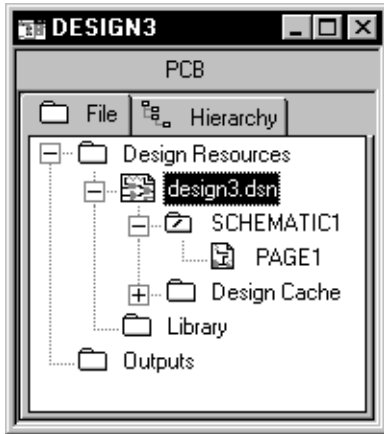

Figure 2 New project manager window
You use the project manager to collect and organize all the resources you need for your project. These resources include schematic folders, schematic pages, part libraries, parts, VHDL files, and output reports such as bills of materials and netlists. Figure 2 shows a new project manager window.
- Shown underneath the Design Resources folder is the design folder with the design's schematic folders and schematic pages, and a Design Cache folder that shows all the parts used on the schematic pages. Capture automatically adds any schematic folders or schematic pages that you create to the design folder. (In Figure 2, the design folder is named DESIGN3.DSN.) You can add other files or information using the Project command on the Edit menu. For example, you can add an existing VHDL file to the design folder and later attach the models within that VHDL file to hierarchical blocks on a schematic page.
**Tip** The root module for a design has a backslash in its folder icon, as shown in Figure 2 on page 2-6.